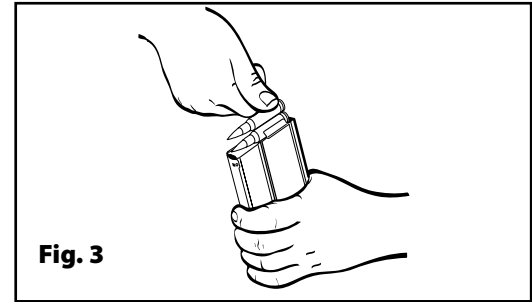

Fig. 3
1. Load the magazine by inserting the cartridges one at a time into the magazine [see figure 3]. **Place the firearm on safety and point it in a safe direction.**